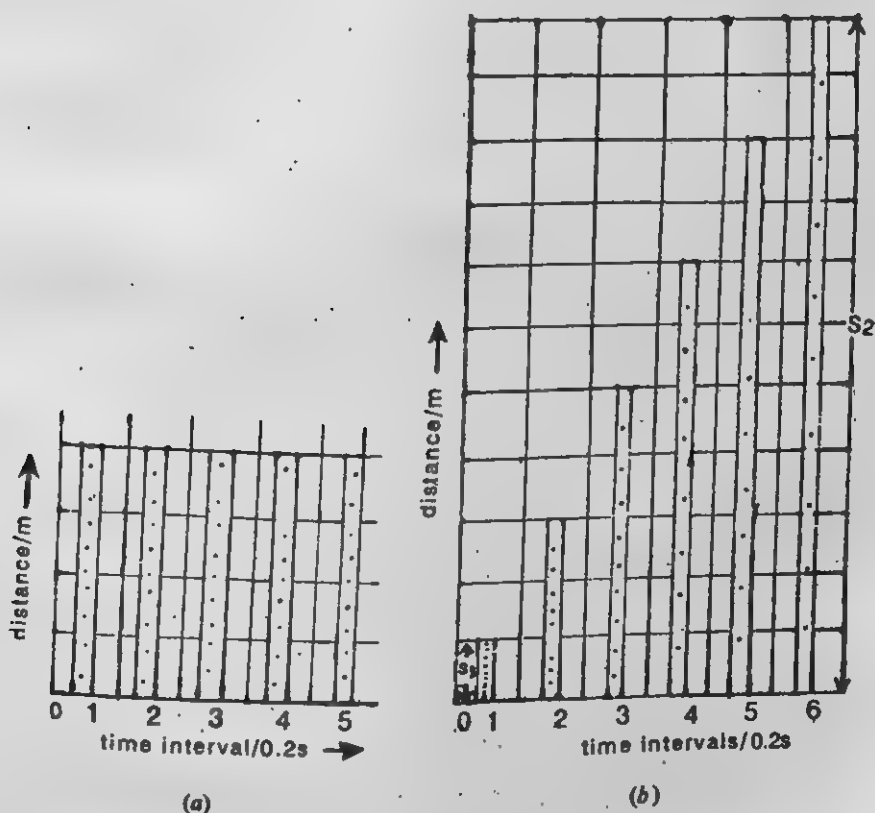

Fig. 12.3. Tape charts for (a) uniform motion on the friction-compensated runway and (b) accelerated motion.
3. After a successful run, detach the tape and, disregarding the first series of dots, cut it up into strips which each represent 10 vibrations or 0.2 s (10×0.02 s). These strips can be stuck on a sheet of graph paper to give a chart like that in Fig. 12.3 (b).
4. Fig. 12.3 (a) shows the chart obtained when the trolley runs down the runway at uniform velocity *i.e.*, covering equal distances in equal time intervals on a *friction-compensated* runway.
5. Using the chart in Fig. 12.3 (b) the average acceleration a can be calculated from
(ii) When the preliminary adjustments are complete, attach a 3 m length of tape to the trolley and apply a steady force using two or three stretched elastic cords. Using the technique shown in Fig. 12.3 (b), calculate the acceleration a and hence find $\frac{1}{a}$ for the single trolley.